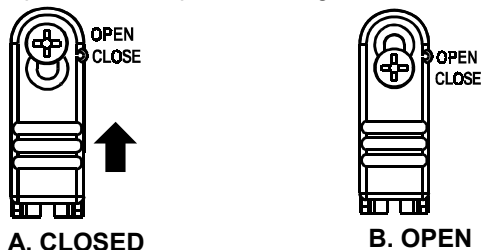

Figure 29. Unlocking the Bracket
- You will probably find the bracket locking device in the **closed** position (see Figure 29, part A).